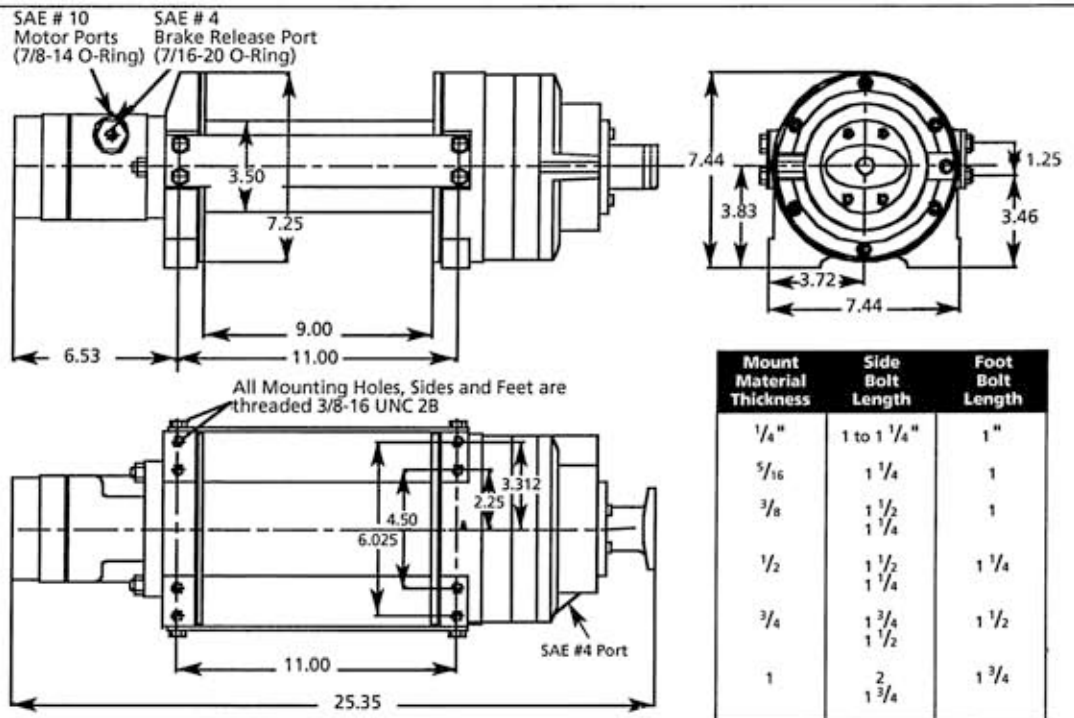

Figure 1
The winch may be mounted on a flat plate using the threaded holes in the bottom of the winch castings or between rails using the threaded holes in the sides of the winch castings. See Figure 1 for hole sizes and locations.
2. All fasteners used in mounting the winch should be 3/8-16 UNC with a strength rating of Grade 5 or better. All fasteners used in mounting the winch must comply with the lengths for material thicknesses listed in the bolt length table (See Figure 1).